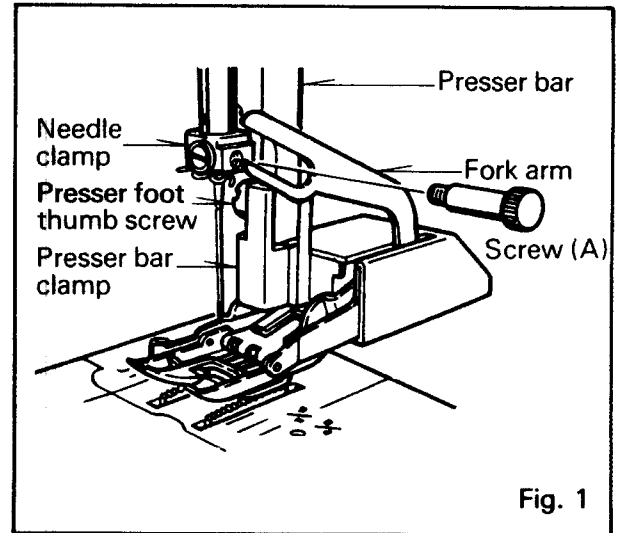

Fig. 1
1. Raise foot release lever to remove the foot. (Fig. 1)
2. Place the desired foot on the needle plate aligning needle holes. (Fig. 1)